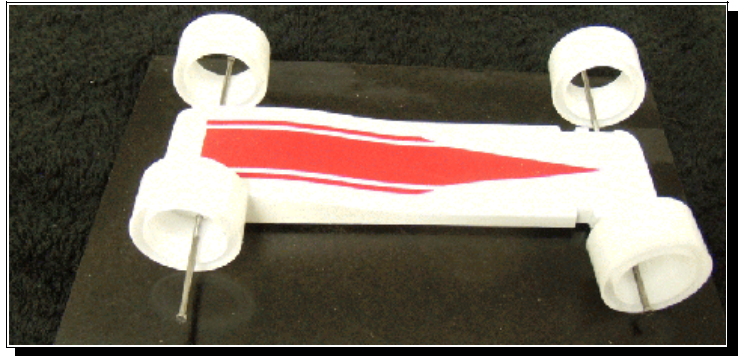

Figure 25 - Pinewood Derby car, 4 axles sliding on the inside of plastic rollers of Figure 21.
Look at **Figure 25**: How much KE is lost if all 4 wheel axles are sliding in the inner (ID) hole to roll each roller forward 1.00 inch? Units are in oz_F. Your calculation gives _____ in oz_F.